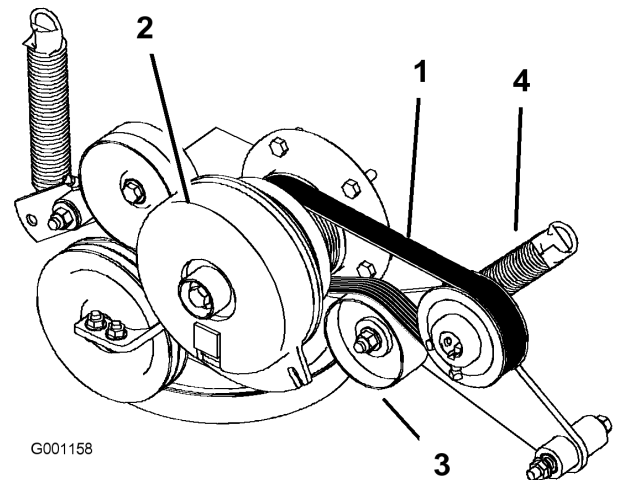

Figure 58
3. Remove the spring from the idler arm (Figure 58).
4. Install the new belt around the engine and hydro pump pulley (Figure 58).
6. Install the spring to the idler arm (Figure 58).